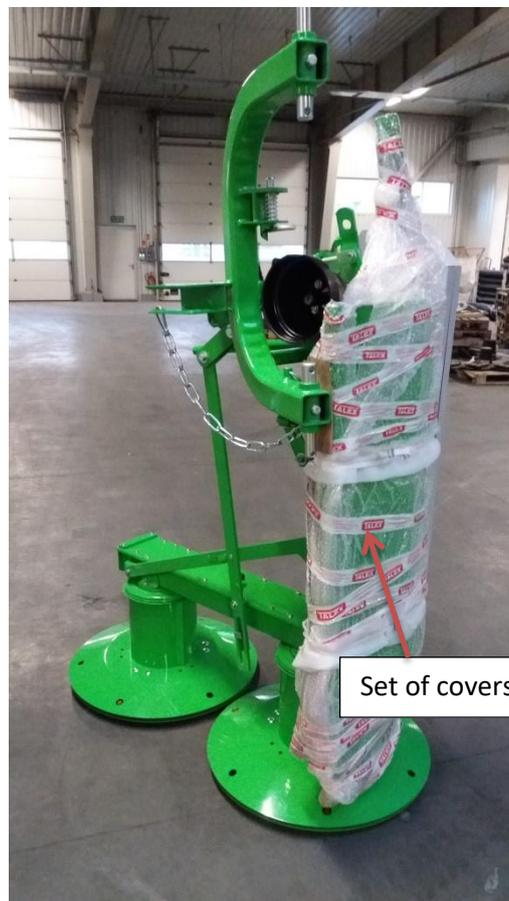

Figure 5 Mower before assembly by the user
If the mower has been delivered as shown on the photo (Fig. 5), you should:
- remove the cover unit (Fig. 5),